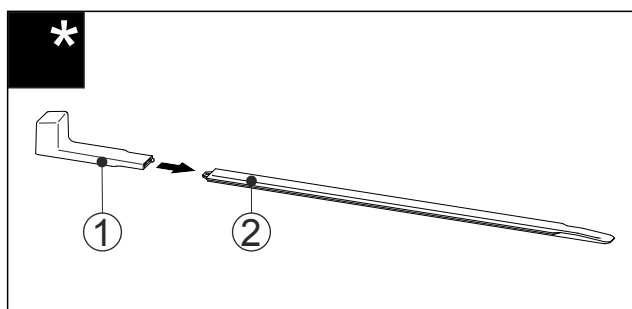

Fig. 47
- ▶ Attach the installation handle Fig. 47 (1) to the levelling rail Fig. 47 (2).